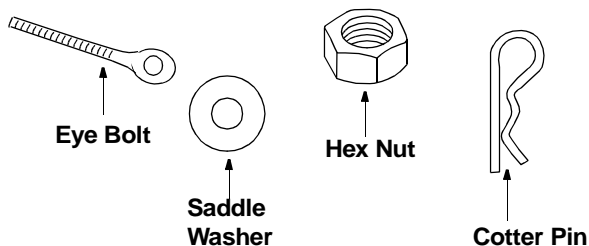
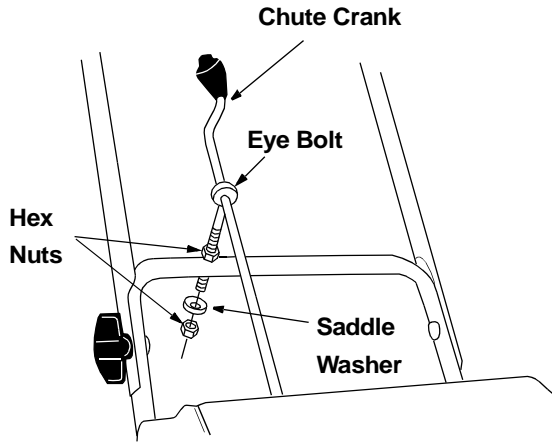

Figure 2: Hardware Pack
Figure 5
(Items 2 to 5 are illustrated in Figure 2.)
- Thread one 5/16” hex nut all the way onto the eyebolt. See Figure 5. All necessary hardware is included in the hardware pack shipped with your unit. See Figure 2 for more details.